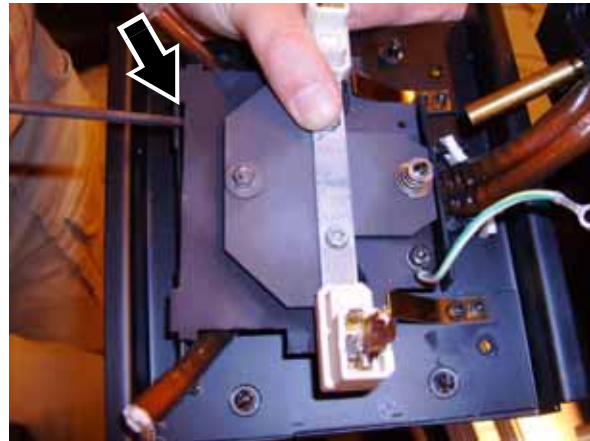

Figure 52
57. See Figure 52. Release the lamp rear plate by levering with a flathead screwdriver (arrowed), then pull the lamp leads clear of the rear cover. You can now remove the lampholder /rear cover assembly completely.